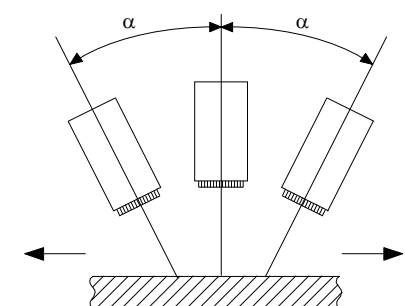

Figure 2
- If the material is very shiny (i.e. plastic or metal plate) it is advised to tilt the reading head 5° to 20° in relation to the material that has to be read and to the direction of its movement (see fig.2).
- Ist das abzufragende Material glänzend (z.B. Kunststoff oder Metall), empfehlen wir den Druckmarkenleser ca. 5° bis 20° zum Material und zur Bewegungsrichtung zu neigen (s.fig.2).
To detect marks with slight color contrasts, it is necessary to power up the TL80 for some minutes before adjusting the threshold. When marks are on a transparent background, tilt the TL80 unit as shown in figure 2 and set the light/dark selector switch properly.